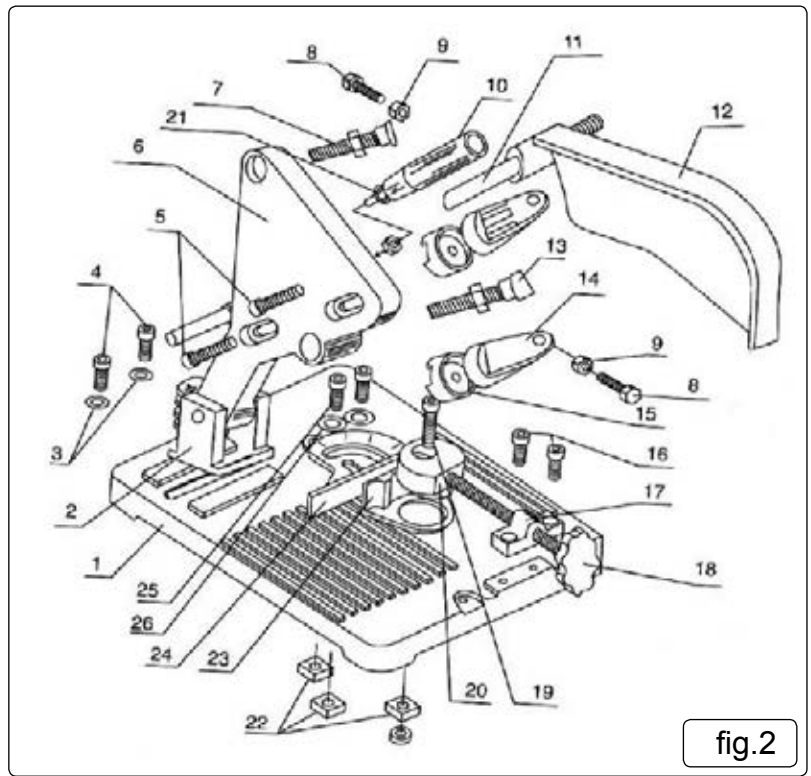

fig.2
- 4.1. Fix stand (2) onto base (1) with washer (3) and tighten with screws (4).(fig.2.)